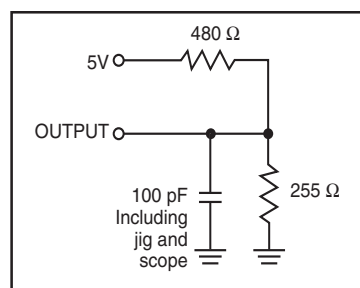

Figure 1.
1. Test conditions assume signal transition times of 5 ns or less, timing reference levels of 1.5V, input pulse levels of 0 to 3.0V and output loading specified in Figure 1.
Output Load	See Figures 1 and 2